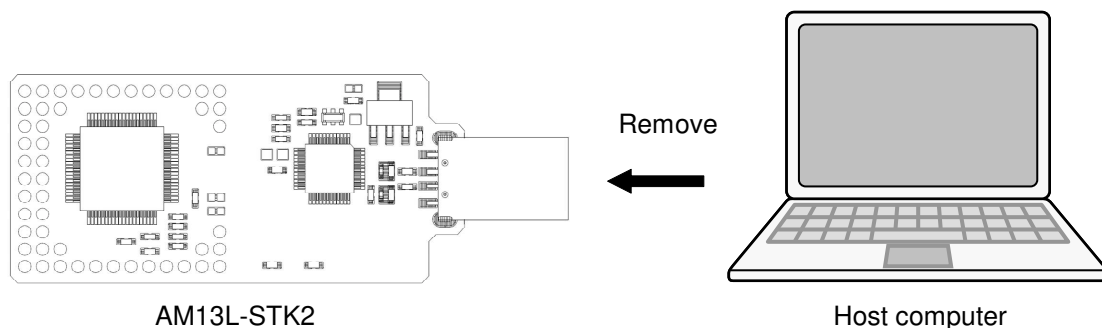

Figure 2.3.3 Removing the AM13L-STK2 from the host computer
3. Remove the AM13L-STK2 from the host computer as shown in Figure 2.3.3.